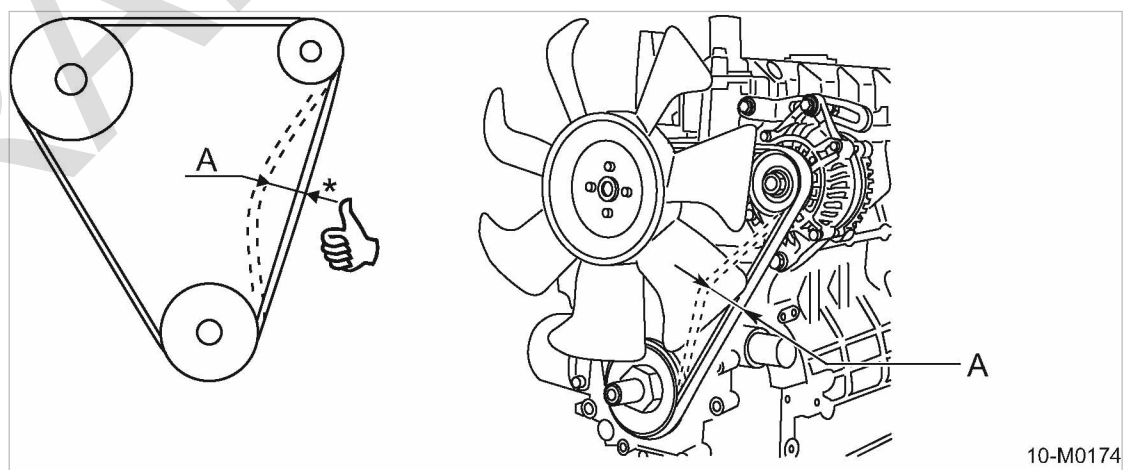

Fig. 52 Belt tension checking by hand
1. Check belt tension by hand (see Fig. 52).
6. Check the belt tension (see Fig. 52).